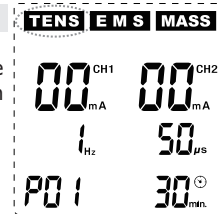

Fig. 23
The settings you have made in the adjustable programmes are stored in the device and can be recalled. If you wish to delete these settings and to reset the programmes to the basic settings, you can proceed as follows: Open the cover of the battery compartment (see also p. 12) and remove one of the four batteries. Press and hold the key ⑨ (**CH2**) while re-inserting the fourth battery. The blue display lighting switches on and shows an empty display. After several seconds, two acoustic signals are generated and all adjustable programmes are reset to the basic factory settings according to table (p. 22 - 26). In the basic mode, the programme 1 (**P01**) of the **TENS** mode is now shown on the display (**TENS** flashes - see Fig. 23).